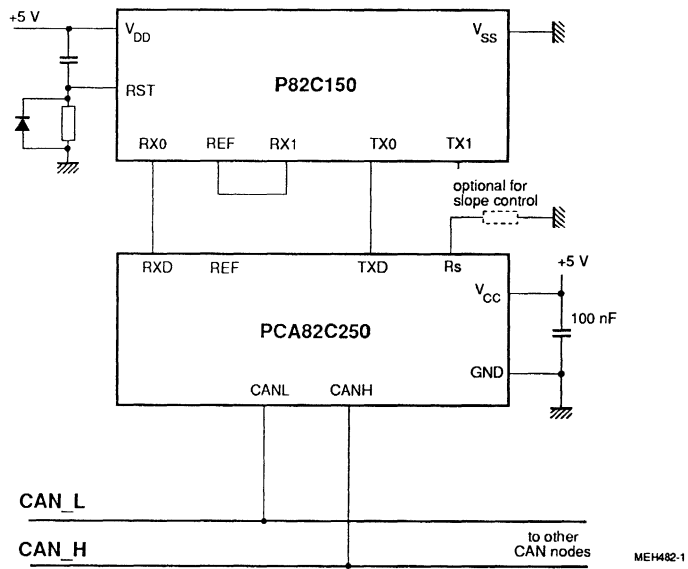

Fig.13 P82C150 connected to CAN-bus using CAN transceiver PCA82C250 (ISO / DIS 11898 standard).
- the total in/out delay of external transceiver circuit is 120 ns (e. g. PCA82C250 CAN transceiver; Fig.13)